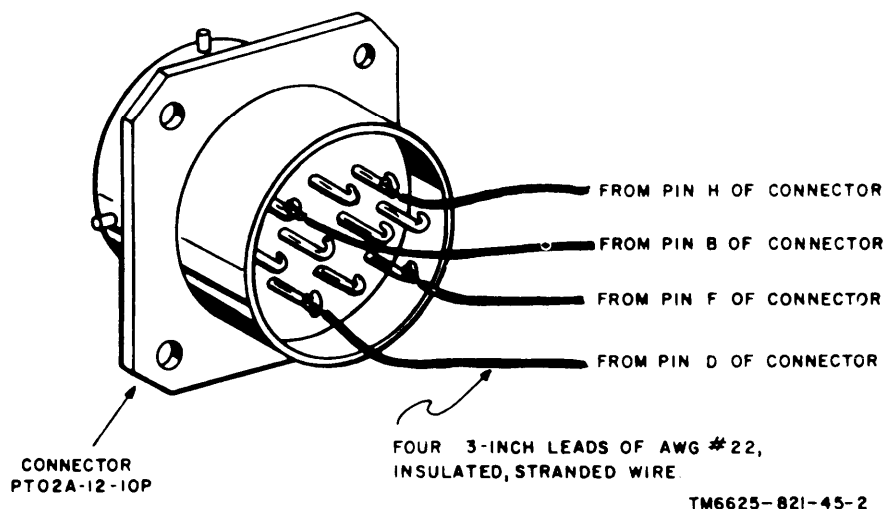

Figure 4-1. Fabricated cable for LOOP SIMULATOR, construction details.
c. Connect the equipment as shown in figure 4-10. A detailed drawing of the fabricated cable is shown in figure 4-1.
(1) Set the POWER ON switch to ON.
(2) Set the range switch to the 450-1500 KC position.
(3) Set the FREQUENCY control to 650 kc.
(4) Set the LEVEL-Q switch to LEVEL, and rotate the ZERO ADJ LEVEL control until the CIRCUIT Q voltmeter reading is 0.
(5) Set the LEVEL-Q switch to Q, and rotate the ZERO ADJ Q control until the CIRCUIT Q voltmeter reading is 0.
(6) Set the LEVEL-Q switch to LEVEL.
(7) Set the RF ON switch to ON.
(8) Adjust the SET LEVEL FINE and the SET LEVEL COARSE controls until the CIRCUIT Q voltmeter pointer is over the redline on the meter.
(9) Set the LEVEL-Q switch to Q.